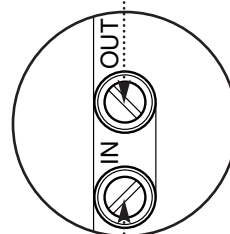

Fig. 36
7. With the system cold and all controls calling for heat check the gas pressure at the inlet tapping of the gas valve (Fig. 36). The pressure must be greater than 14 mbar.